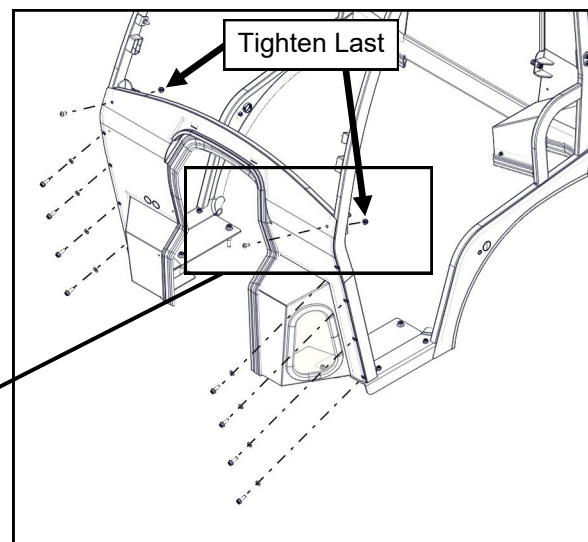

Fig. 12.1 (Cowl Installation)
12.1 Fasten the cowl to the side frames as shown in Figures 12.1 & 12.1a. The bulb rubber in the center should lay across the dashboard and flex outwards away from the steering wheel. Fasten to the sideframes. Starting with the top (2) fasteners, Button Head Screws with Flange Nuts (no plastic washers) and the lower 8 fasteners which are Flange Head Cap Screws with Plastic Washers, install all fasteners finger tight.